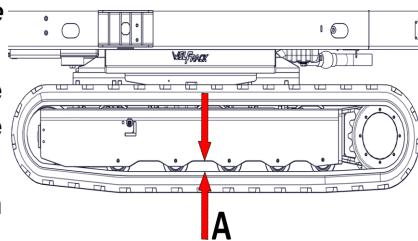

Figure 37 - Checking Track Tension
3. Measure distance 'A' from the bottom of the central roller to the rigid inside surface of the rubber track (Figure 37).